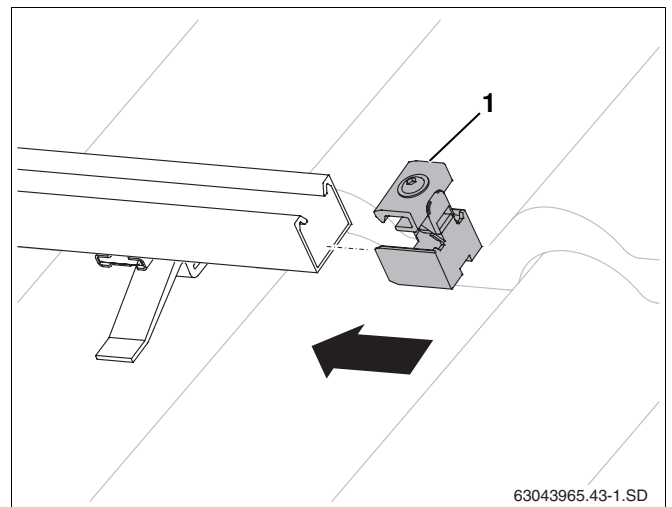

Fig. 42 Pushing on the one-sided collector clamp
- Push single-sided collector clamps (Fig. 42, **Item 1**) into the profile rails at the right-hand end of the collector array until they click into place in the first slotted hole on the profile rails.